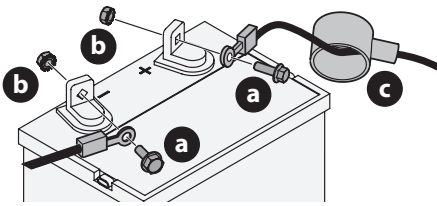

Fig. 21
1. If present, remove the plastic cover from the positive battery terminal. Attach the red connector to the positive battery terminal (+) using the bolt (a) and hex nut (b) (Fig. 21 on page 13).
- Position the red rubber boot (c) over the positive battery terminal to help protect it from corrosion (Fig. 21).
- If present, remove the plastic cover from the negative battery terminal and attach the black cable to the negative battery terminal (-) with the bolt (a) and hex nut (b) (Fig. 21).